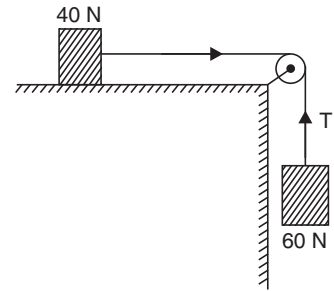

FIGURE 2.17
71. Figure 2.17 shows two weights 40 N and 60 N connected by a light inextensible string and passes over a smooth weightless pulley. The weight 40 N is resting on a rough horizontal plane with $\mu = 0.3$ and weight 60 N hangs freely and is moving downward. The tension in the string would be
72. Refer to Fig. 2.17, the acceleration with which weight 60 N descends would be